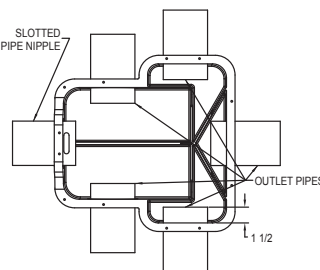

Figure 3.1
- 3.2) Insert necessary trench pipes into basin, pushing through approximately 1-1/2". See Figure 3.1. The number of pipes varies for each installation.